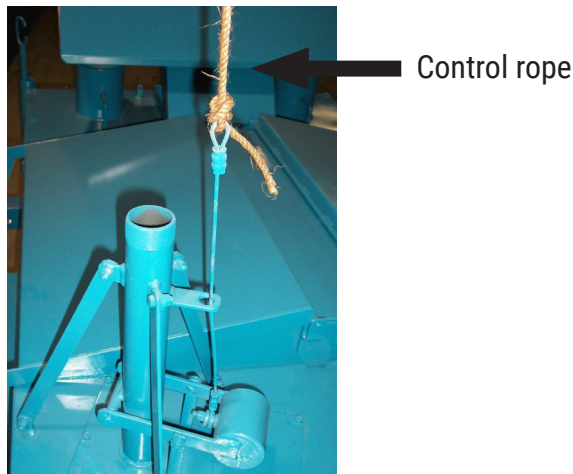

Fig.2
2. Attach valve control rope to end of cable on valve (see fig. 2). Untie any knots in the line that could cause binding. Pulling on valve control rope closes the valve sends hot stuff to the roof. Releasing the rope opens the valve and stops the flow of material to roof. Valve must be in open position (rope released) before starting engine. Always check to see that valve is operating freely with nothing obstructing it before starting pump system.